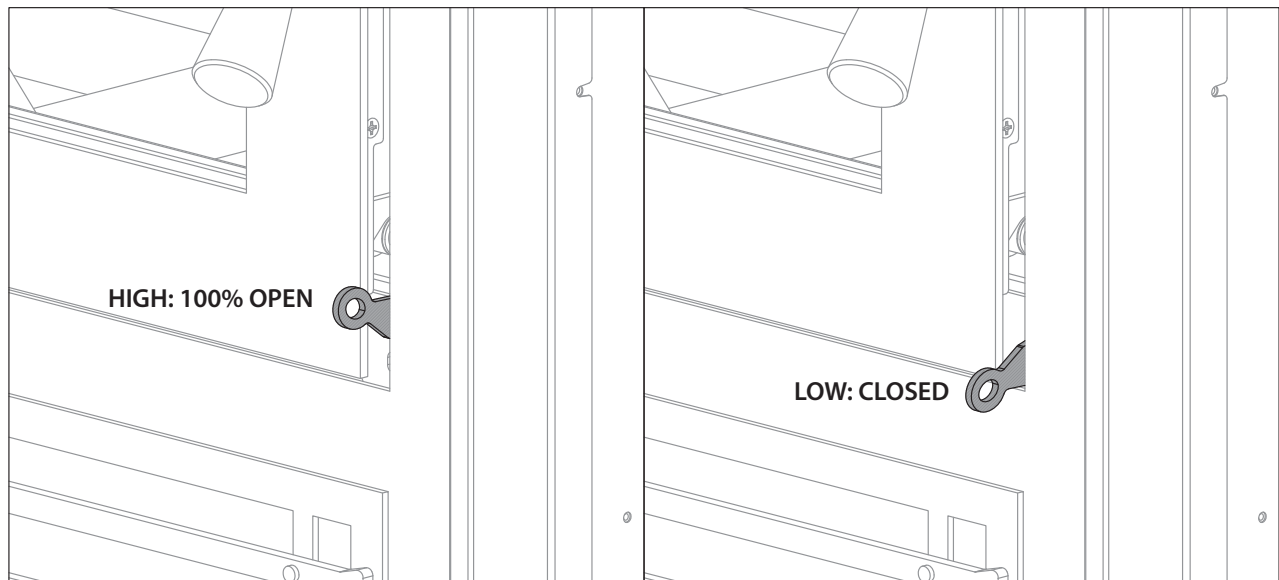

Figure 9.4, Air Intake Adjustment
9. Adjust intake damper to desired heat output position. See Figure 9.4. To keep glass cleaner, never completely close the intake damper. See Section 9.5.1 Air intake damper for more information.